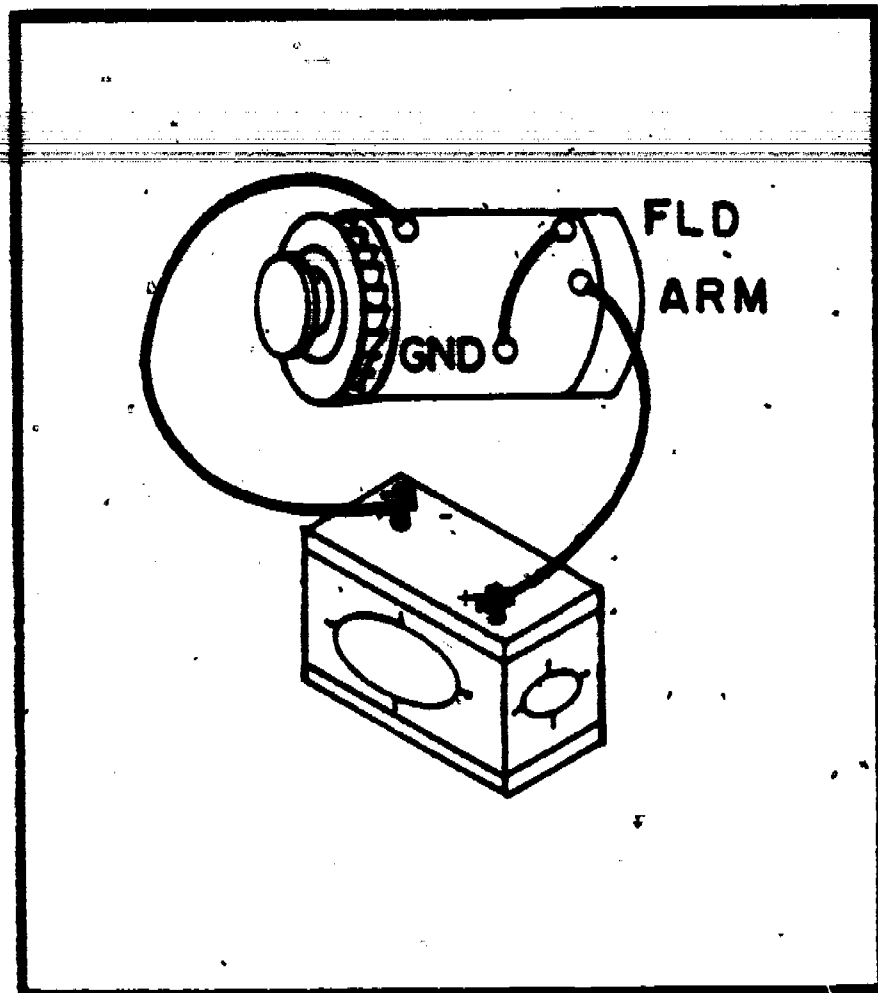

Figure 20. Connections for Running Generator ("A" Circuit) as a Motor.
Note: Connected properly, the generator should motor at a steady speed if everything is operating properly. Refer to figures 20 and 21 for correct connections.
a. Make the correct connections for motoring test on an "A" circuit generator, figure 20.